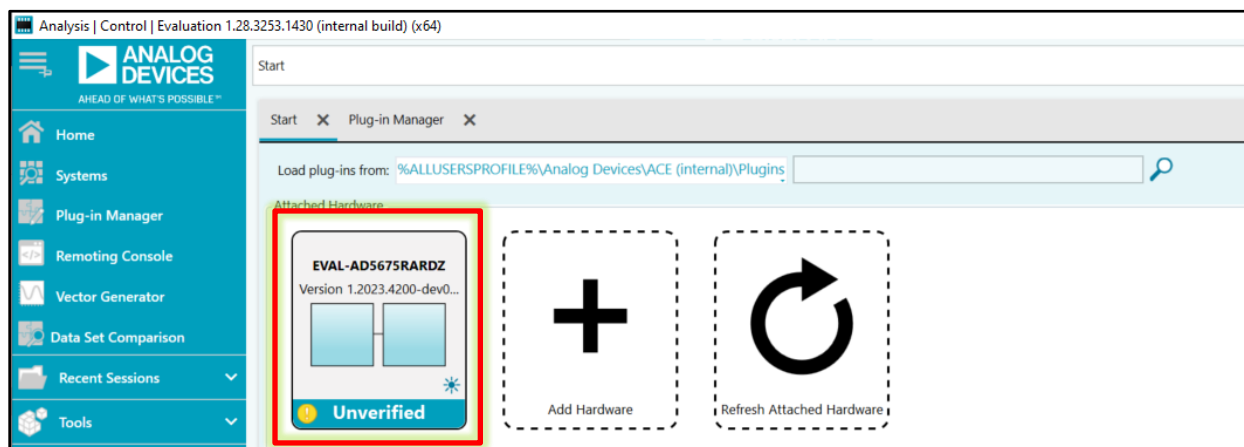

Figure 16
2. Open ACE, EVAL-AD5675RARDZ will show up as an Attached Hardware, shown in Figure 16. Double-click on the EVAL-AD5675RARDZ image.